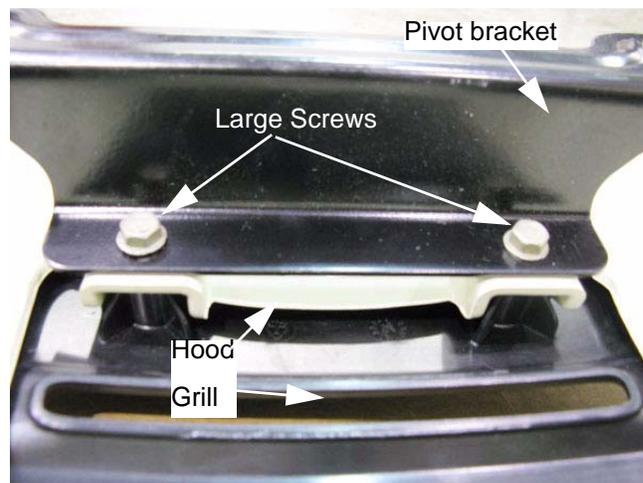

Figure 4.12
2. Remove the two screws that hold the pivot bracket and grill to the hood assembly using a 1/2" wrench. See Figure 4.12.